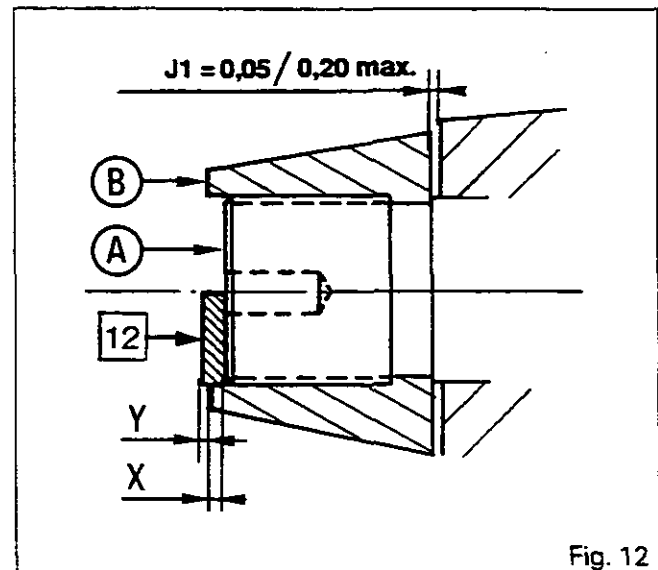

Fig. 12
40. Tighten the screw (2) so as to align two flat sides of the screw head with the two tabs of the retainer (3). Bend back the tabs.
Note: If work has been done without the need to carry out shimming J1 (Fig. 12) (eg. replacement of seals) it is essential to place the shims [12] at the left end of the shaft (factory fitting) to preserve the correct positioning of the cam and avoid having to adjust the sensor (26).
41. Carry out shimming of the shaft (4) (Fig. 12) to obtain end play :
45. By measuring dimension X, determine the thickness of spacers Y needed to obtain (Fig. 12):